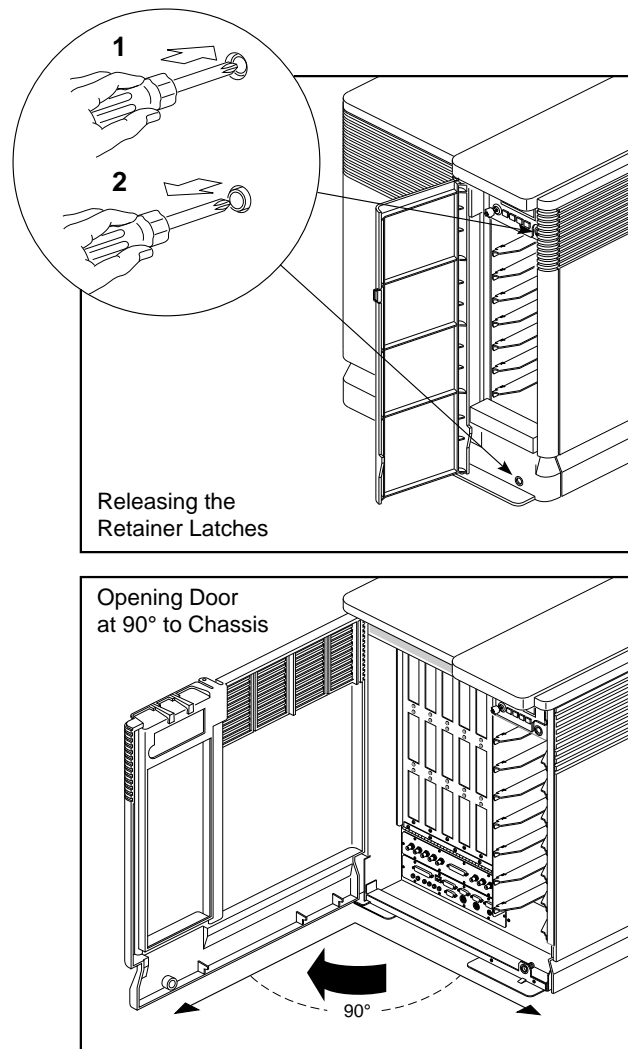

Figure 5-69 Opening the Front Door
2. Release the two retainer latches by fully depressing and releasing each latch with a pointed object, such as a screwdriver. Depress the inner button completely; Figure 5-69 shows the latch location and operation.
2. Open the chassis front door until it is perpendicular to its normal, closed position, as shown in Figure 5-69 (the chassis front must be in this position for the I/O door to open completely).